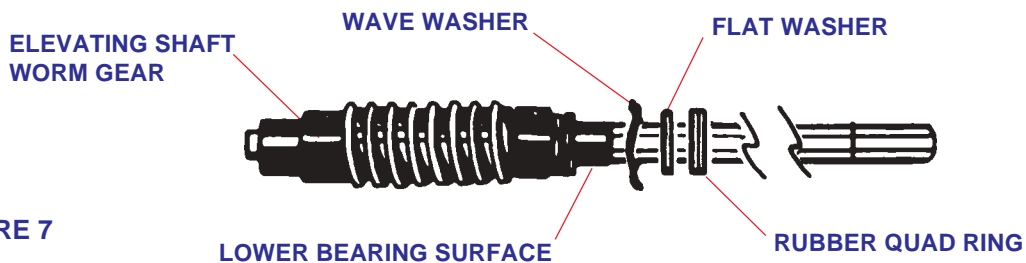

FIGURE 7
- STEP 4.** Lubricate worm gear assembly on new elevating shaft assembly with spray silicone lubricant. **Make sure wave washer, flat washer and quad ring are on lower bearing** (Figure 7) and insert assembly in housing.